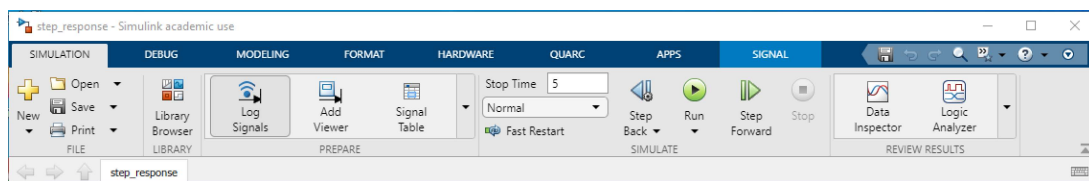

Figure 6: Additional Simulink blocks can be added to the file by opening the 'Library Browser' in the panel.
9. Start adapting/changing the Simulink file according to the instructions in this file and according to the instructions given in the lab. Additional Simulink blocks to be added in the Simulink file can be found in the 'Library Browser' (see Figures 6 and 7).